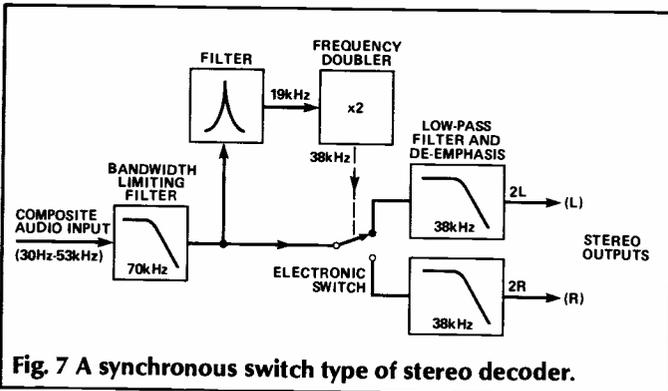

Fig. 7 A synchronous switch type of stereo decoder.
**Fig. 7** The vibrato/tremolo circuitry of the Vox AC30. The signal is first amplified and passed through two 90° phase shifts produced by the RC feedback networks around the second triode. The two signals are then combined in a modulator (the ECC82) with the outputs from an LF oscillator and phase splitter built around the second ECC83.
The second method (Fig. 7) is very much more complex in theory but much simpler in practice. In this, the  $38\text{kHz}$  recovered waveform is used to operate some kind of synchronous switch, by which the composite signal is sampled and routed alternately to the L and R outputs.